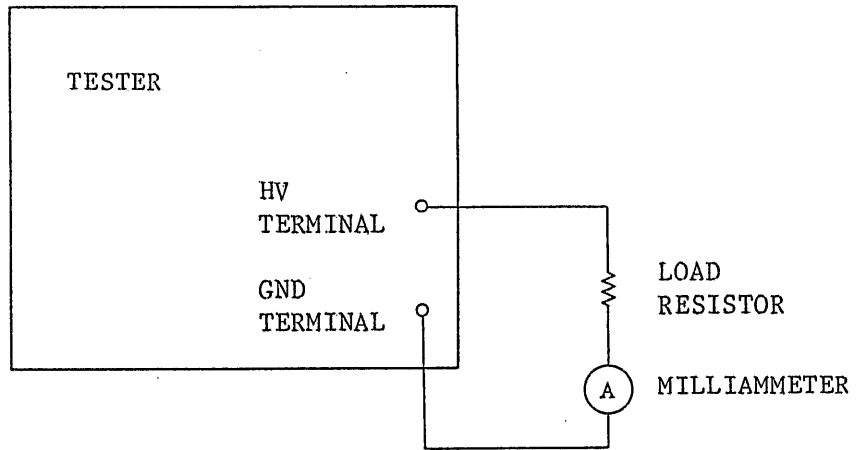
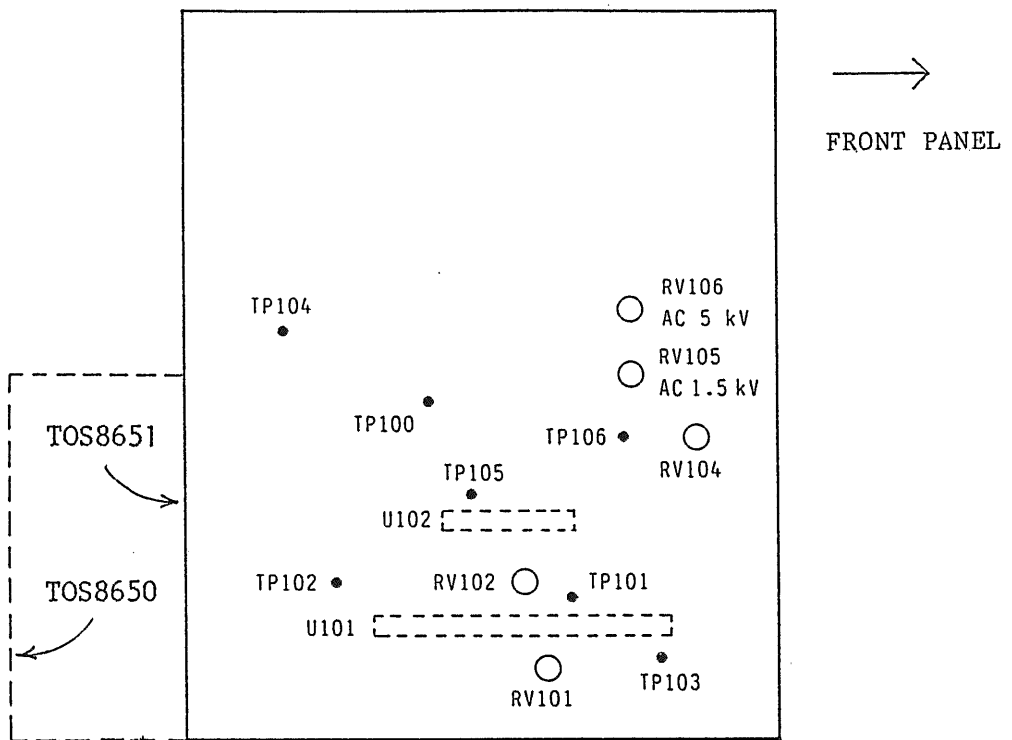

Figure 6.1
Figure 6.3
(2) Preparation and Notes Before Starting Calibration
- ① Before turning on the power switch, perform mechanical zero adjustment of the voltmeter.
- ② Turn on the power switch and allow a stabilization period of approximately 15 minutes.
- ③ Of the TOS8650, the semi-fixed potentiometers are located on the PC board at the left-hand side in the casing. The layout of the potentiometers and test points are shown in Figure 6.3.
(5) Calibration of Cutoff Current (Leak Current Detection Sensitivity)
- ① Set the MULTIPLIER knob on the front panel of the Tester to the CAL'D position.
- ② Measure the Voltage of pin 6 of U102 or TP106 with reference to TP100. Adjust the voltage to $2.5\text{ V} \pm 0.2\%$ with RV104. For the TP (test point) numbers, see Figure 6.3.
(6) Check of Cutoff Current
- ① With the adjustment of Item (5) alone, the cutoff current should satisfy the accuracy of judgment to the specification. If it does not, the Tester is malfunctioning. No further adjustments than that of Item (5) can be made and the Tester needs repair service.
- ② Set the panel switches and dial in the same manner as mentioned in Item (3), ①.
- ③ Connect a load resistor and a milliammeter which are corresponding to the set cutoff current, as shown in Figure 6.1 or 6.2. Select a resistance from Table 6.1 in conformity with the set current.
- ④ Set the Tester to the TEST ON state and gradually increase its output voltage until the Tester generates an NG signal at approximately 1 kV. Turn slightly the TEST VOLTAGE dial counterclockwise, set the Tester again to the TEST ON state, and increase the output voltage very slowly.
- ⑤ Read the current immediately before the NG signal is generated and the output is cut off.
- ⑥ For each of the cutoff current values to be tested, repeat the procedure of Steps ③ - ⑤.
(7) Calibration of Cutoff Current (Leak Current Detection Sensitivity)
- ① Set the panel switches and knobs of the Tester as follows:
- ② Connect a load resistor (2 M Ω) and a milliammeter (0.5 mA FS) as shown in Figure 6.1 or 6.2.
- ③ Set the Tester to the TEST ON state and gradually increase its output voltage until the Tester generates an NG signal at approximately 1 kV. Turn slightly the TEST VOLTAGE Knob counterclockwise, set the Tester again to the TEST ON state, and increase the output voltage very slowly.
- ④ Read the current immediately before the NG signal is generated and the output is cut off.
- ⑤ Adjust the CUTOFF CURRENT ADJ 0.5mA semi-fixed potentiometer so that the NG alarm signal is generated accurately at 0.5 mA.
- ⑥ Calibrate each of the ranges of 1 - 100 mA in the same procedure as in Steps ① - ⑤. Select load resistances corresponding to cutoff current ranges, referring to Table 6.1. Also select the measuring ranges of the milliammeter accordingly.